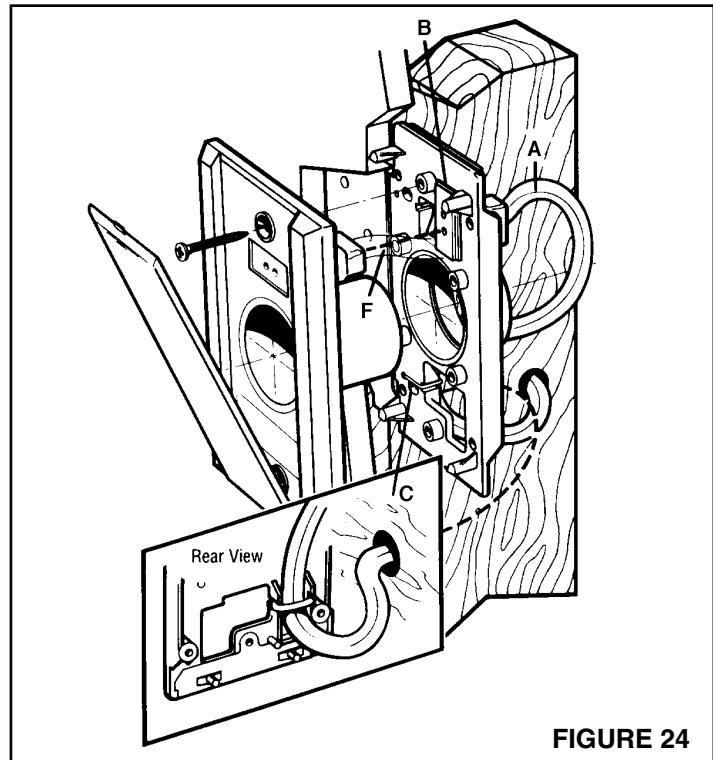

FIGURE 24
1. See Figure 24. Fasten the mounting plate to a stud within three studs (48") of an electrical outlet box. Measure and mark the wire 10" from the plug (A). Feed the wire through the top hole in the mounting plate (just above the circular opening). Snap the molded plug into the mounting plate as pictured (B). This will keep it secure and out of harm's way during drywalling and finishing. Line up the wire at the previously measured 10" mark with the strain of relief channel on the back of the mounting plate. Secure it in place with the supplied wire tie (C).
2. Run the inlet wire to the adjacent electric box. If you must run wire through a stud, drill directly through the center of the stud (D).